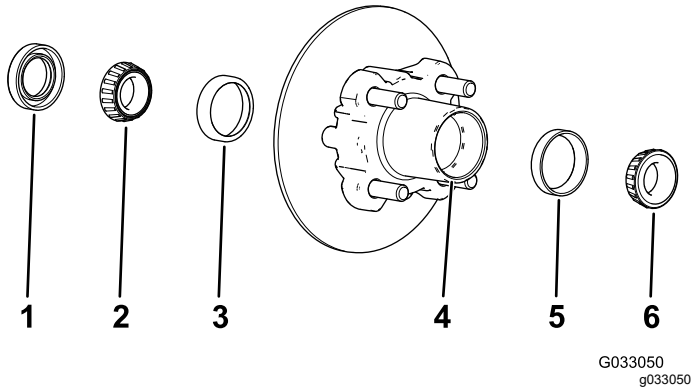

Figure 39
1. Remove the outboard bearing and bearing race from the hub (Figure 39).
2. Remove the seal, inboard bearing from the hub (Figure 39).
5. Clean the cavity of the hub of all grease, dirt, and debris (Figure 39).
7. Fill the cavity of hub 50 to 80% full of the specified grease (Figure 39).
8. Assemble the inboard bearing onto the race at the inboard side of the hub and install the seal (Figure 39).